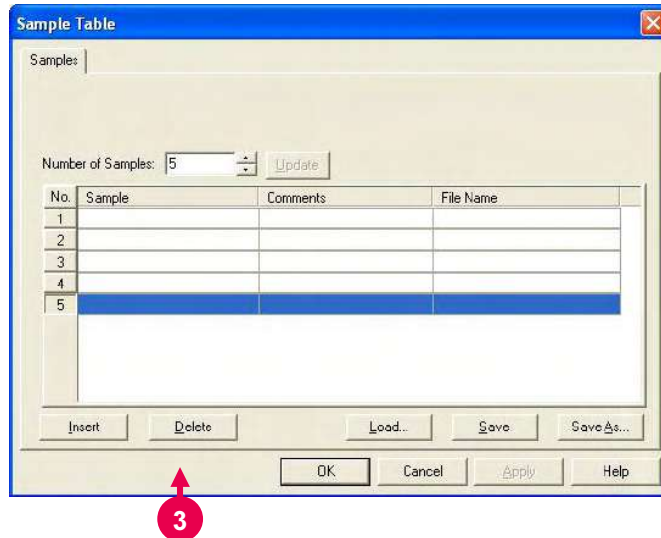

Fig. 2-12
- 3 To delete an unnecessary row, click its row No. to make it active as shown in Fig. 2-12. Then, click the **Delete** button.